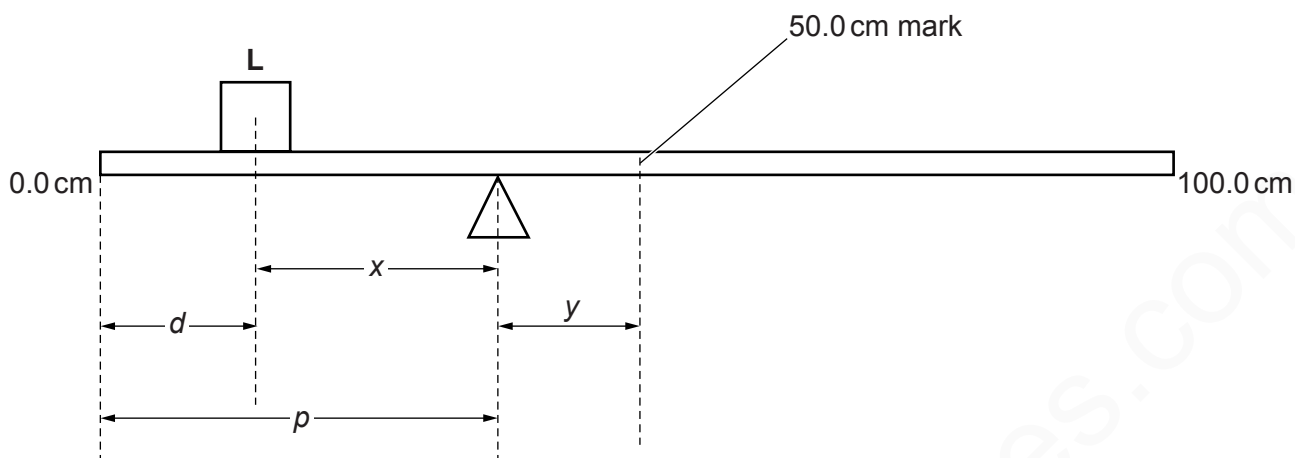

Fig. 3.1
- He places the load on the rule so that its centre is at a distance $d = 5.0$ cm from the zero end of the rule, as shown in Fig. 3.1.